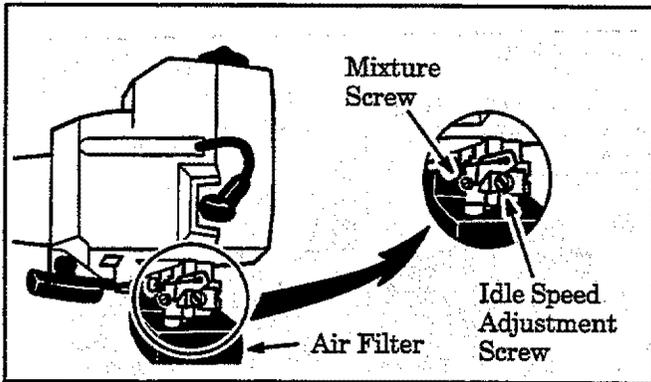

Figure 24
- a. Turn the mixture screw (Figure 24) clockwise until it stops. *Do not turn the screw until it is tight as damage to the needle seat can occur.*
2. Adjust idle speed screw (Figure 24) until the engine continues to run without stalling.
- b. **If the engine does not accelerate smoothly**, turn the Mixture Screw (Figure 24) counterclockwise a small amount (no more than the width of the slot in the adjusting screw).
3. Turn mixture screw (Figure 24) very slowly clockwise until engine speed is reduced.